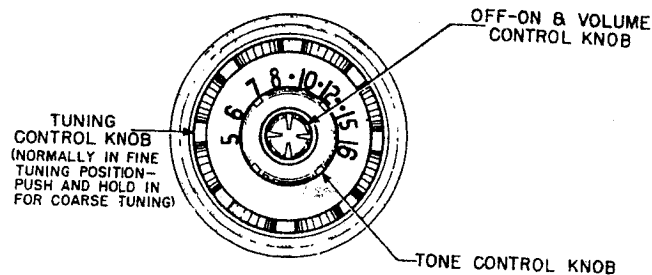

FIGURE 1. OPERATING CONTROLS.
2. LOCATE KNOCKOUT IN DASH PANEL. REMOVE AND INSTALL POWER SUPPLY HORIZONTALLY AS SHOWN IN FIG. 1.
4. CONNECT WIRING PARTS SEE FIG. 1.
5. AS SHOWN IN FIG. 1, FROM POWER SUPPLY TO RADIO RECEIVER TUNER